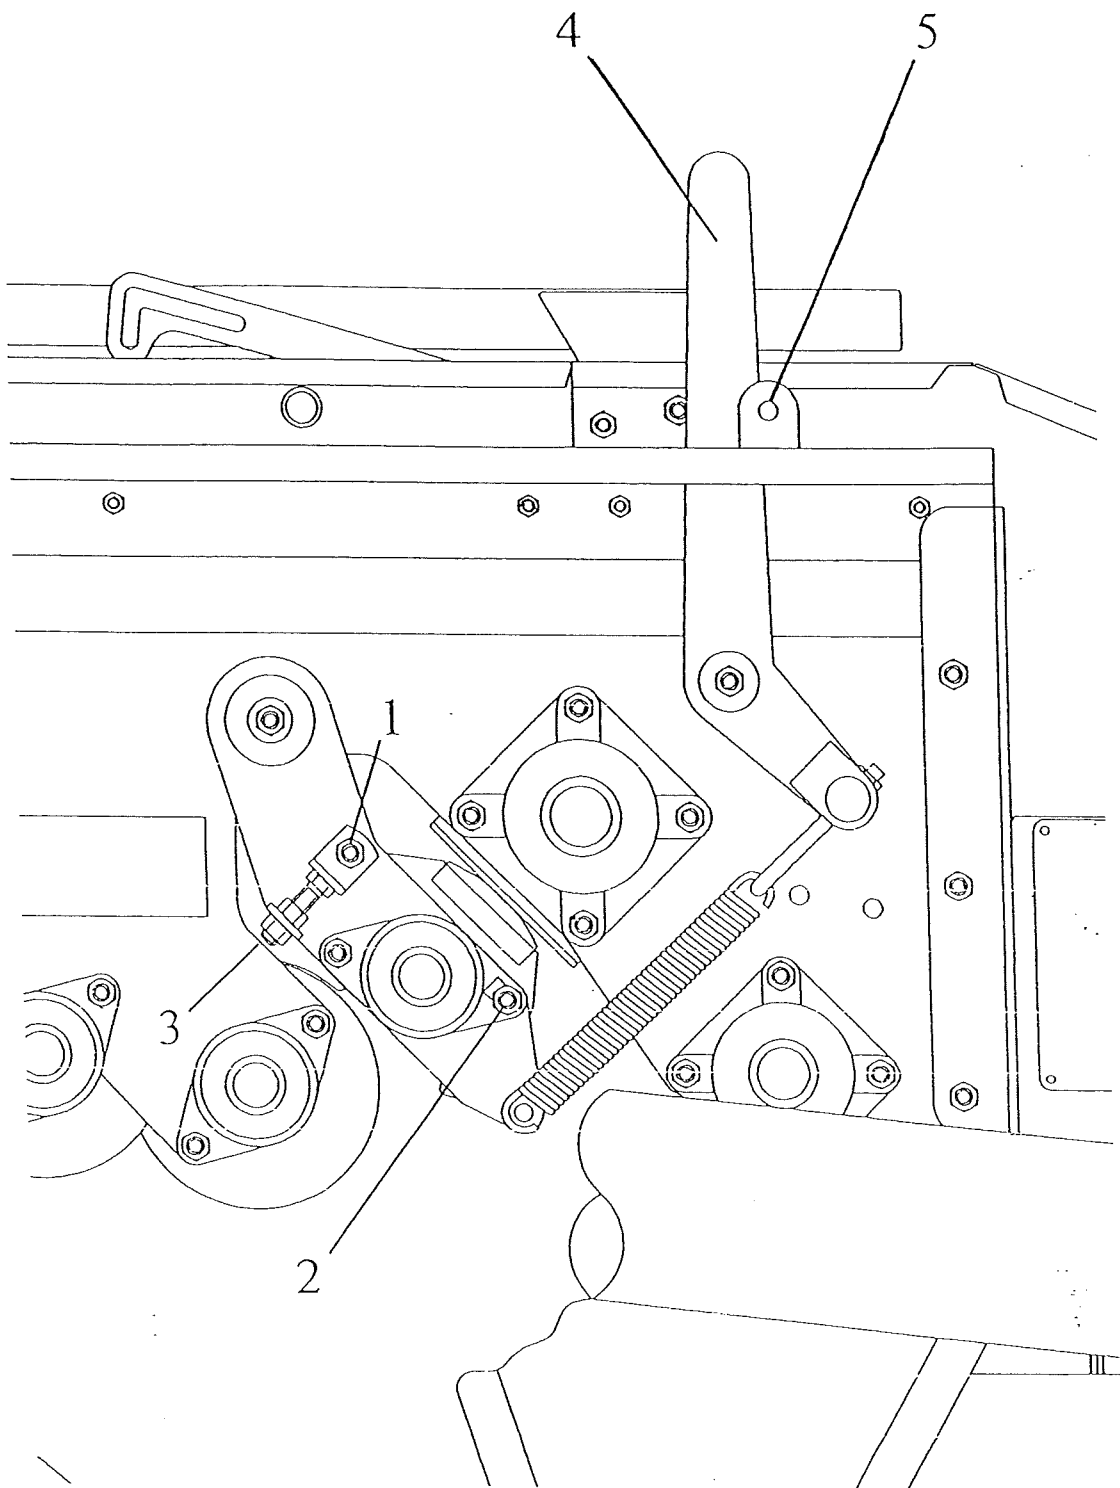

Fig 7.6
To adjust the gap between haulm roller and web, release the spring tension which holds the roller to the web (see 7.4.3). Slacken the clamp bolts locking the bump stop mounting (fig 7.6 item 1 and 2). Adjust the set screw (fig 7.6 item 3) in or out to achieve the desired new position. Repeat these operations for the opposite side of the machine, making sure that both ends of the roller are set to the same position, and maintaining the roller parallel to the web. When the necessary adjustments have been made, tighten all bolts and nuts on both sides of the roller.
The haulm roller is held in position by spring tension. The springs are anchored onto a pair of arms, which hold the unit in the working position. The arms are located on each side of the machine, (fig 7.6 item 4), above the haulm roller and can be used to release the spring tension. Use the handles to release the spring tension if a blockage occurs and before carrying out any adjustments to the roller setting. The handles are operated by pulling back so the retaining pin can be removed, (fig 7.6 item 5) the handle can then be carefully allowed to travel forward, thus releasing spring tension. Always reset the handles before commencing work.